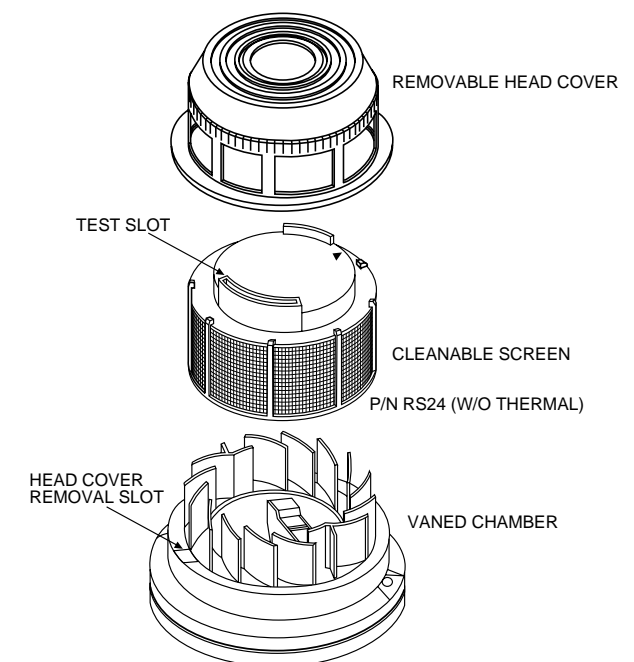

Figure 10. Photo Head Exploded View
5. Remove the detector cover by inserting a small-bladed screwdriver into the slot located approximately 90 degrees from the MOD400R test jack receptacle, rotating the cover counterclockwise to remove it (see Figure 10.)
- Remove the detector head cover by placing a small-bladed screwdriver in the side slot (see Figure 10) of the detector cover, twisting it slightly until the cover can be turned counterclockwise.